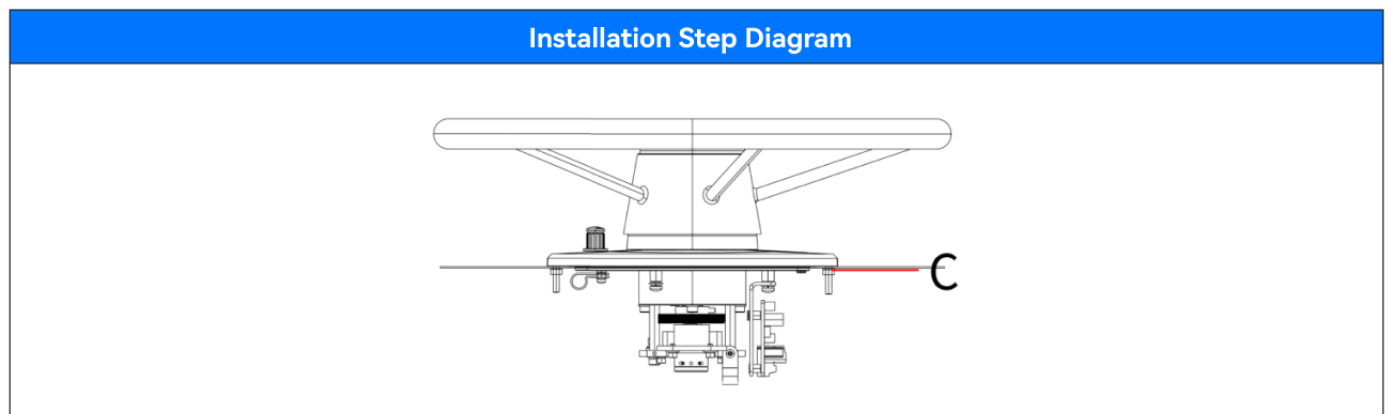

Figure 4.2
2. Secure the handwheel to the mounting plate by installing the studs and accessories, and tighten nut C. Ensure the handwheel is firmly and reliably fastened to the mounting plate. There must be no gaps at the contact surfaces, and no wobbling is allowed, as shown in Figure 4.2.